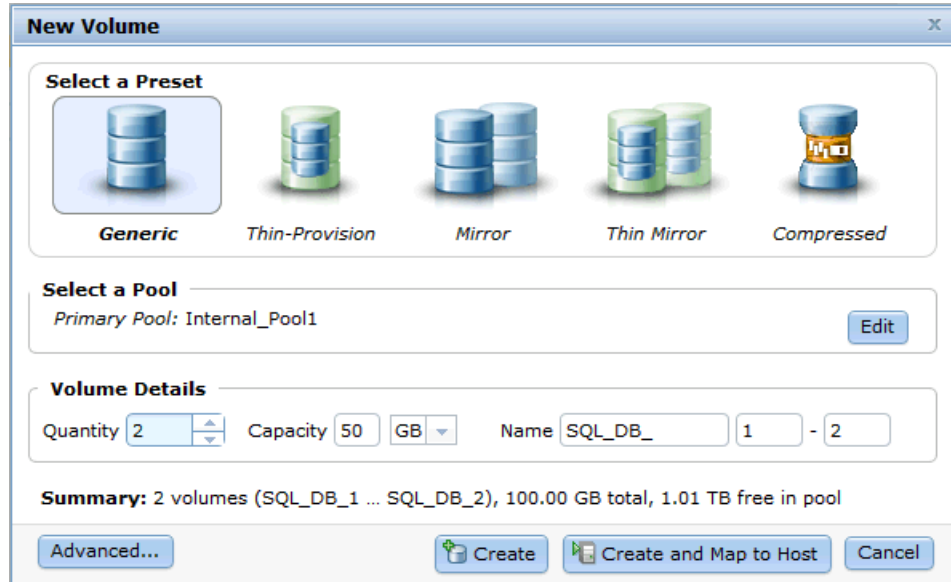

Figure 6-4 Create a generic volume
- Select the managed disk pool where you want the volume to reside by clicking it. In the figure below we choose to create two new volumes of the same size in the same pool and is conveniently done in one step. If you want to create volumes with different size capacity, you can do so by creating one volume at a time. The result is shown in Figure 6-4.